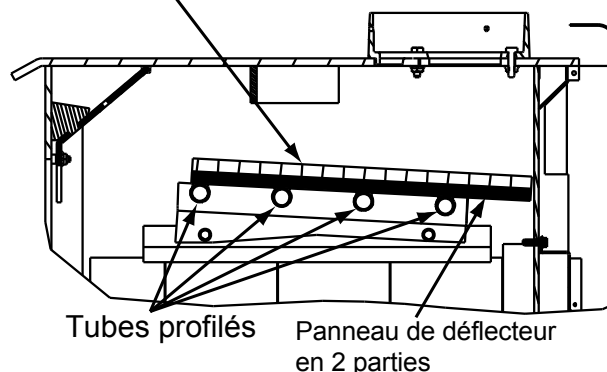

Figure 20.3
4. Re-install the baffle pieces one piece at a time. Be sure the baffle boards are even with the front manifold tube and is resting on all tubes (**Figure 20.3**).